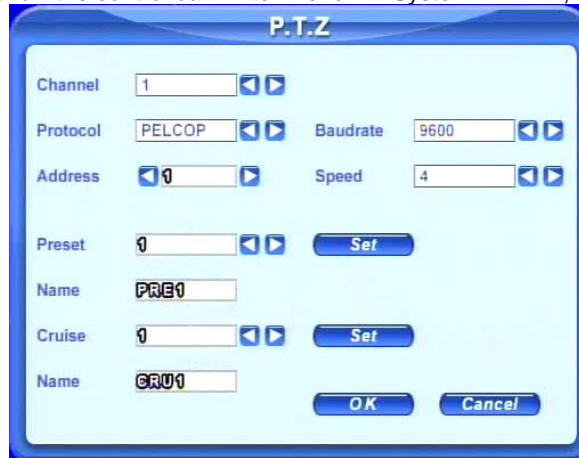

Fig 3.25 PTZ Setup
STEP1 Press right mouse to show the control bar. Enter Menu---->System---->P.T.Z, see Fig 3.25.